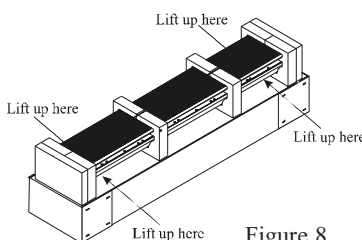

Figure 8
3. Lift up on the rear of the Column Loudspeaker, near the foam packing material at both ends. Place the entire assembly (Column, Loudspeaker Grille and foam packing material) next to the bottom shipping carton on a flat surface. Refer to figure 8.